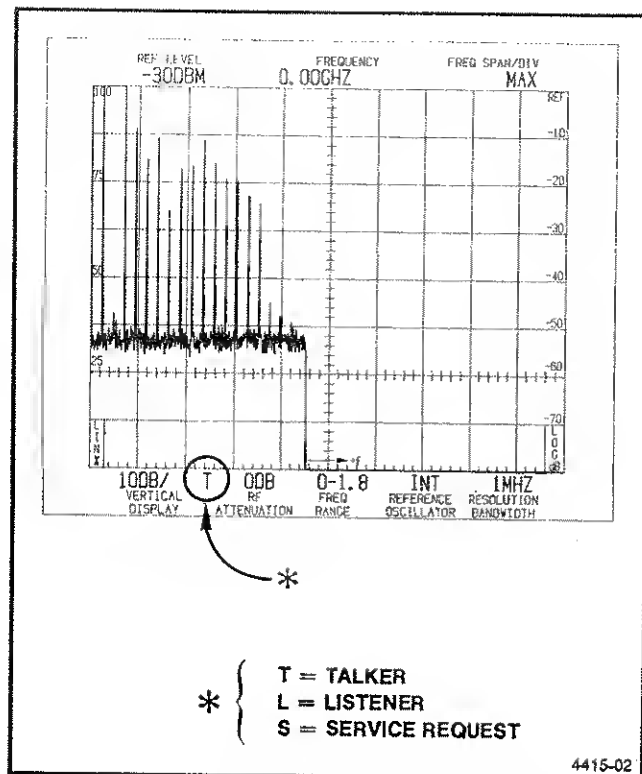

Figure 1-2. Status of active GPIB functions.
A single character appears in the lower crt readout when the 494P is talking (T), listening (L), or requesting service (S); see Figure 1-2. Two characters will appear in this location if the 494P is talking or listening and also requesting service.